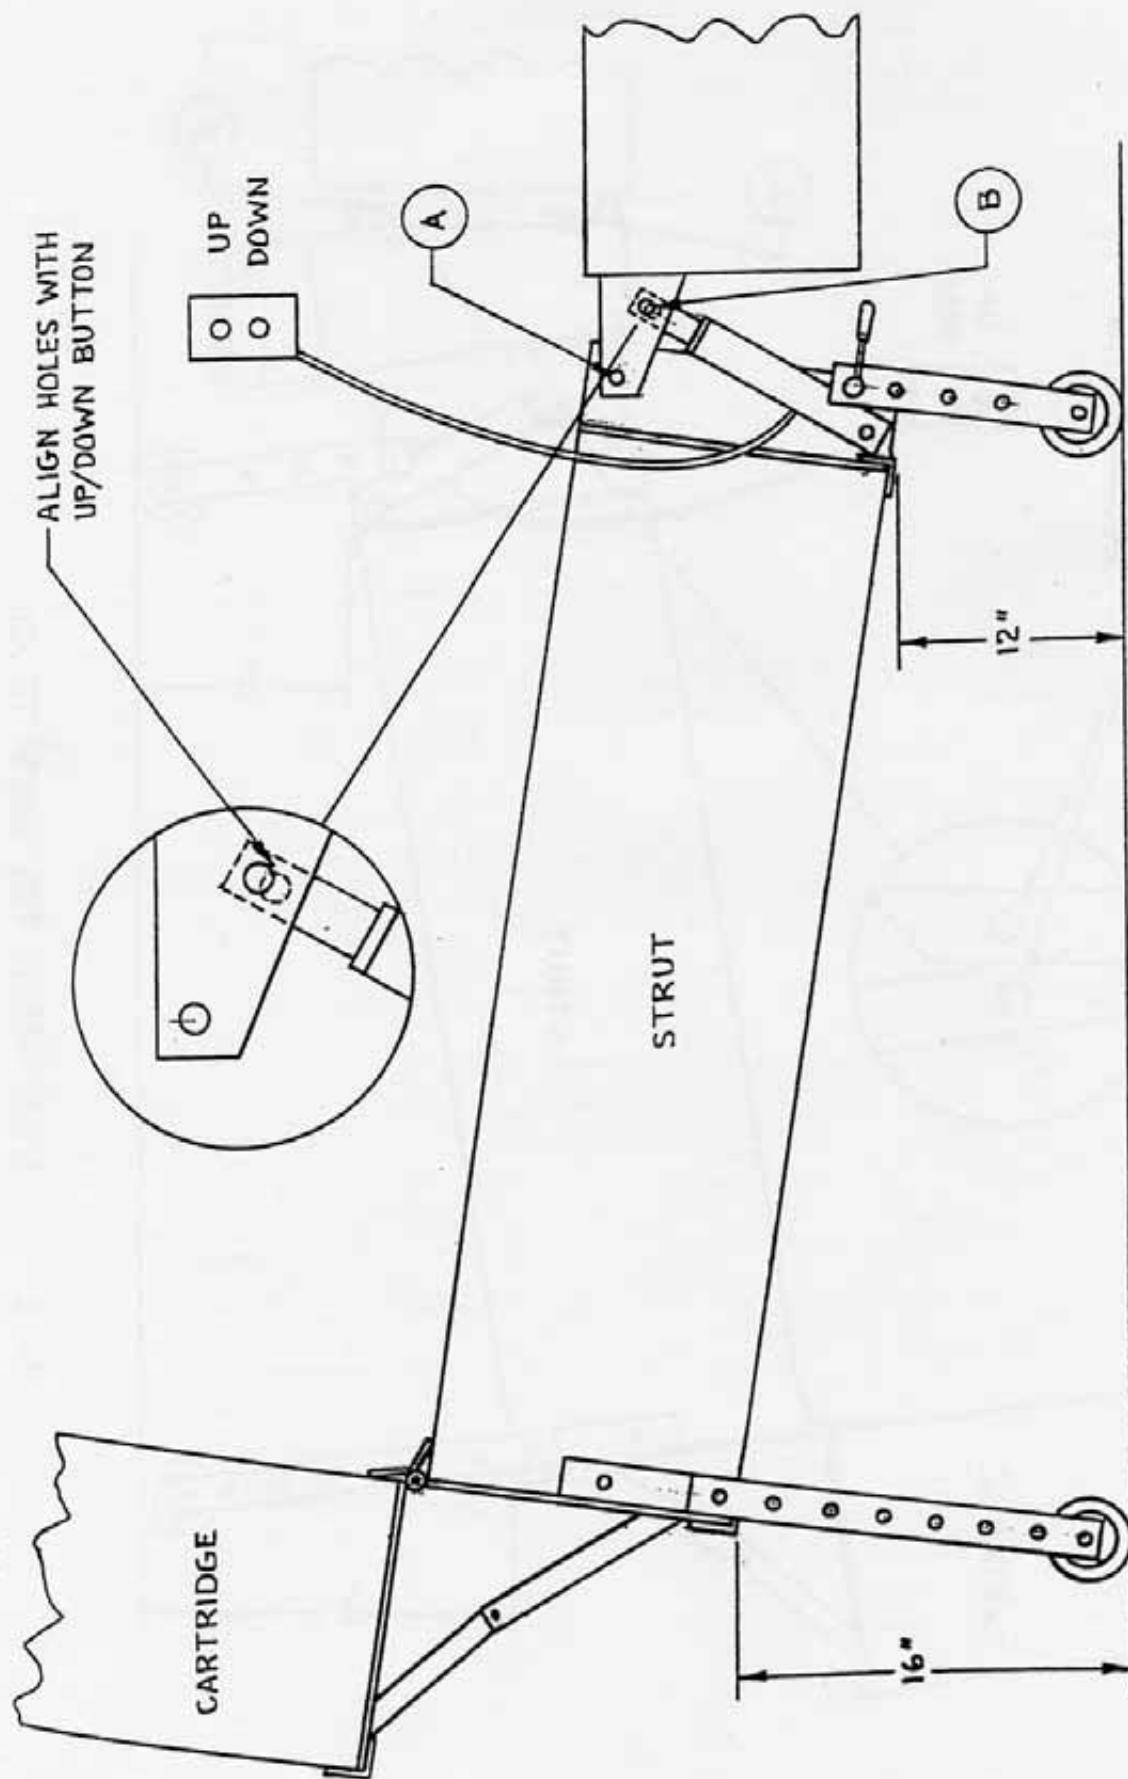

FIG. 1 STANDARD TRUCK MOUNT
4. Standard Truck Mount	Fig. 1 4
1. TRUCK ATTACHMENT, REFER TO THE FOLLOWING FIGURES 1 & 2: To attach the TMA to the truck, roll the TMA up to the truck and connect the red battery wire to the red battery wire and connect the black battery wire to the black battery wire. Connect the 4-pin electrical controller. Lower the TMA to the horizontal position by pushing the down button on the controller.
2. TRUCK REMOVAL, REFER TO THE FOLLOWING FIGURES 1 & 2: To remove the TMA from the truck lower the TMA until the strut moves from 90° to 10°.